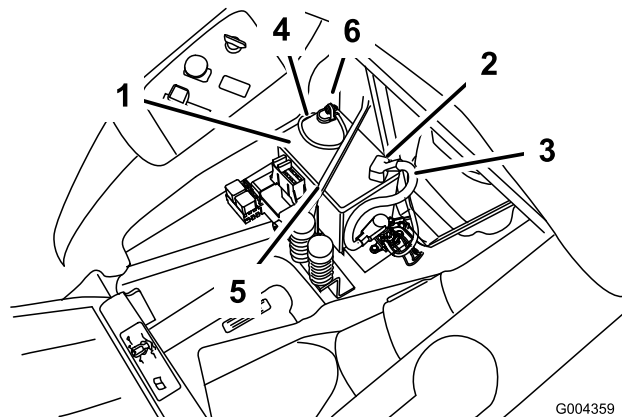

Figure 41
4. Disconnect the negative (black) ground cable from the battery post (Figure 41).
5. Slide the rubber cover up the positive (red) cable. Disconnect the positive (red) cable from the battery post (Figure 41).
6. Remove the battery hold-down (Figure 41) and lift the battery from the battery tray.
1. Position the battery in the tray with the terminal posts away from the control panel (Figure 41).
4. Secure the cables with 2 bolts (1/4 x 3/4 inch), washers (1/4 inch), and nuts (1/4 inch) (Figure 41).
6. Secure the battery with the hold-down (Figure 41).